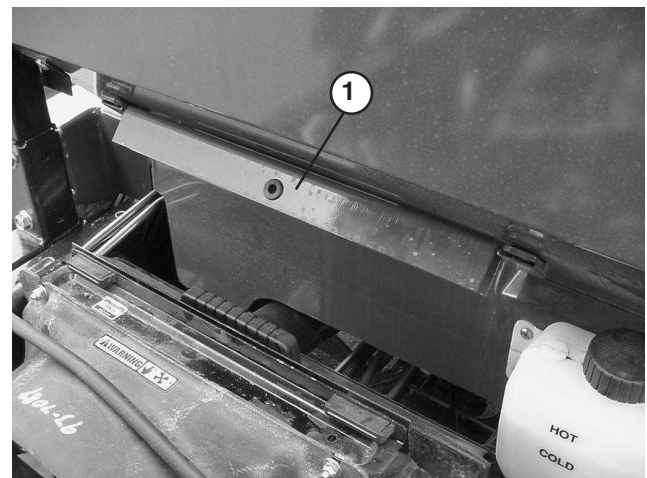

Figure 39
2. Remove bed support from storage brackets on back of ROPS panel (Fig. 39).